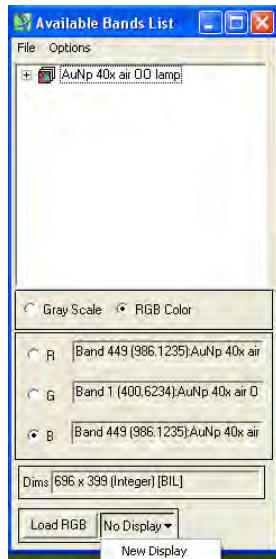

Figure 13. Available Bands List Window
1. Additional display windows can be opened using the No Display button on the Available Bands List (see Figure 13)